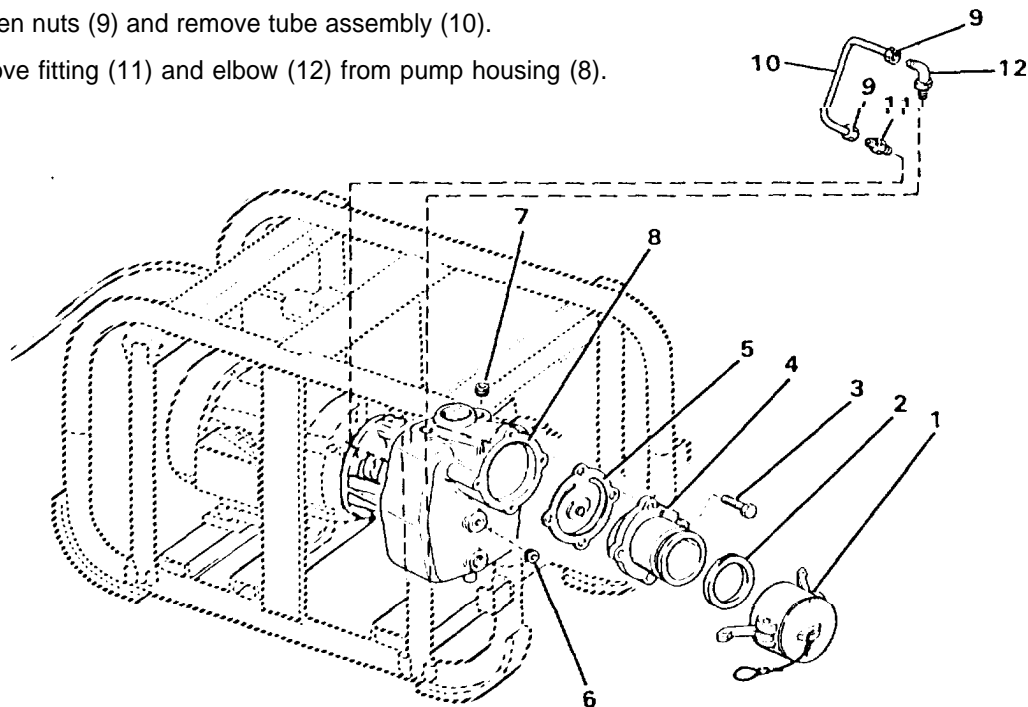

Figure 4-18. Raw Water Pump
- a. Disconnect dust cap (1, Figure 4-18) and remove gasket (2) from dust cap (1).
- b. Remove four screws (3) and remove suction flange (4).
- c. Remove flapper valve assembly (5) from housing (8).
- e. Loosen nuts (9) and remove tube assembly (10).
- f. Remove fitting (11) and elbow (12) from pump housing (8).